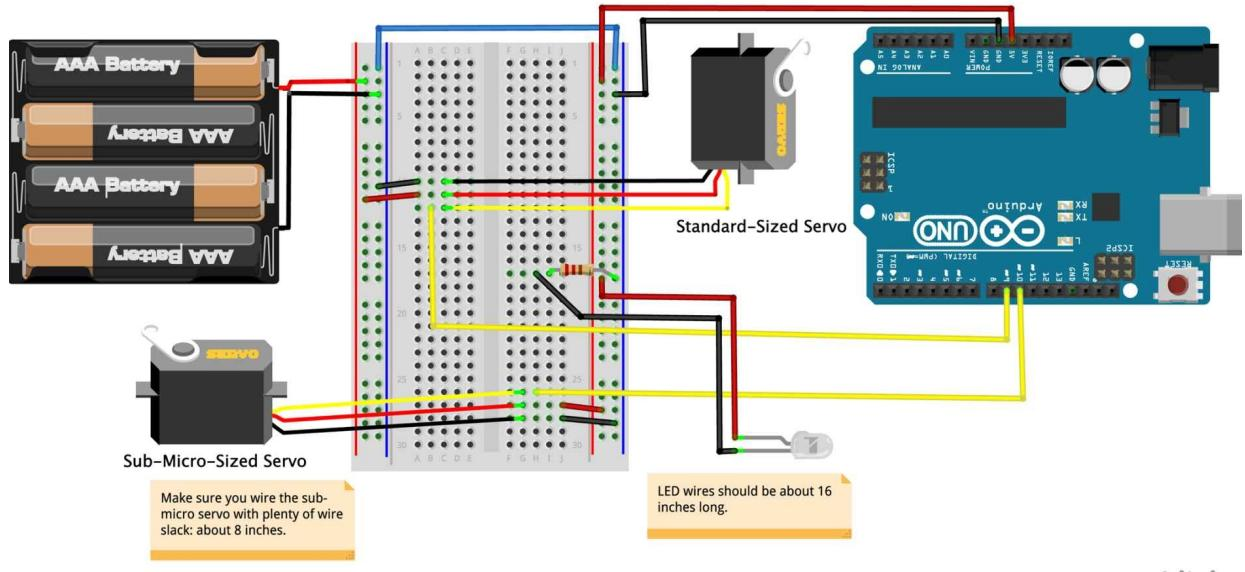

Figure 7-22. Detail of the elevation arm with the mounted LED and wiring
5. Run the wires through the hole cut for the elevation servo wires, leaving enough slack for the elevation arc to pivot comfortably through its range (Figure 7-22).